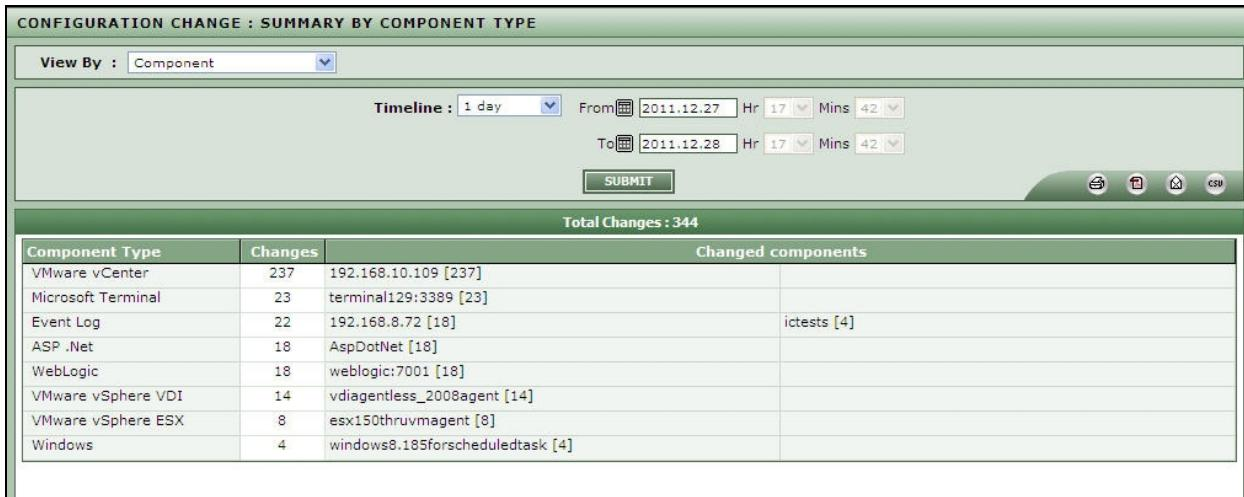

Figure 4.3: Viewing configuration changes component type wise for a specific timeline
1. From the **Timeline** list box, select the time period for which a summary of changes done across component-types is to be viewed (see Figure 4.3).